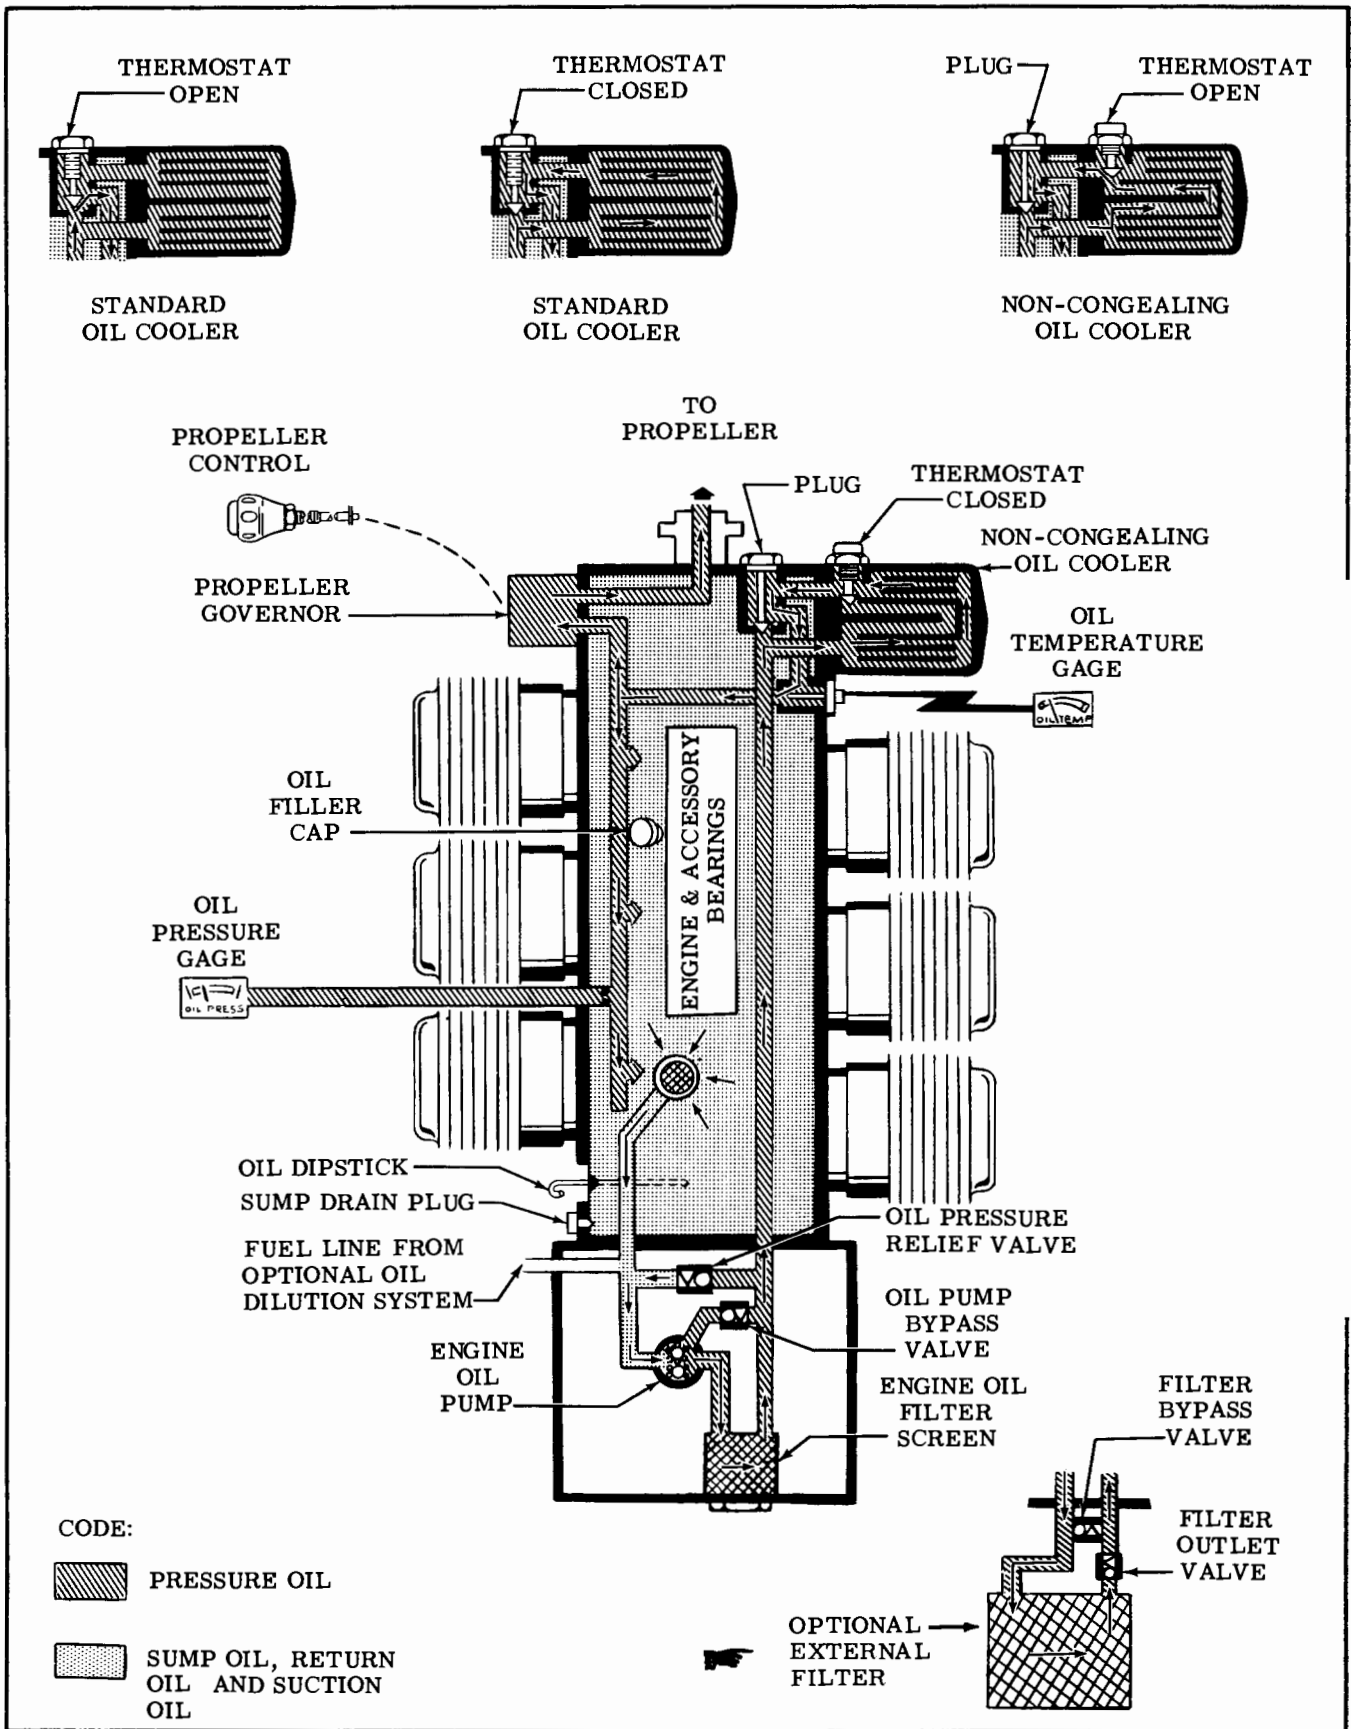

Figure 12-3. Oil System Schematic
**12-28. ENGINE OIL SYSTEM.** (Refer to figure 12-3.)